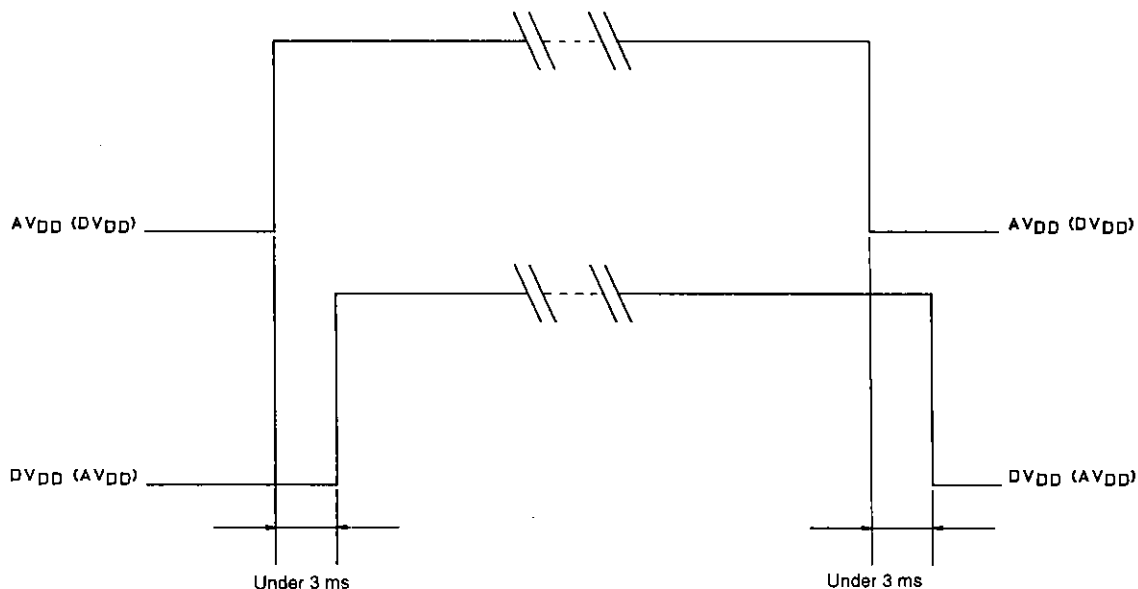

Figure 1
- The difference between times when the power supplies rise must be 3 ms or shorter. (See Figure 1)